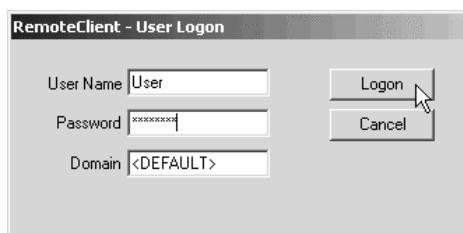

Figure 6.7. User Logon dialog window
- 1) Click the **Connect** button located on the *RemoteClient* window. The **User Logon** dialog box will appear. (Figure 6.7.)